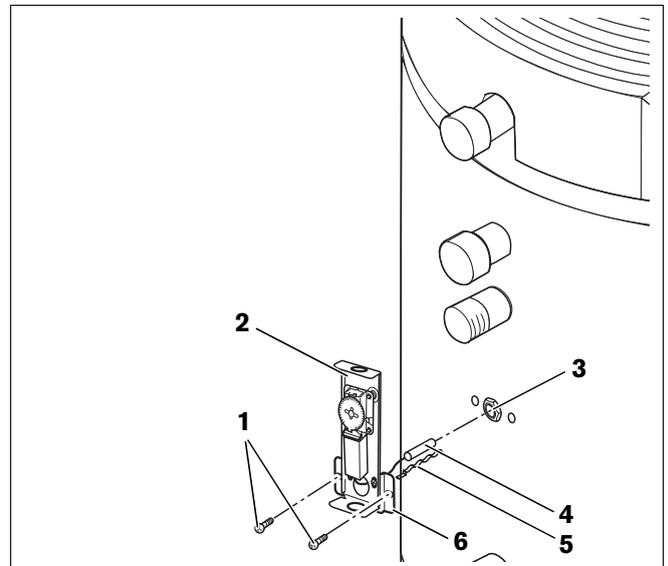

Fig. 10 Installing Aquastat
- Remove cover from Aquastat (Fig. 10, **Item 2**). To do so, undo the hex screw on the top.
- Screw on the holder (Fig. 10, **Item 6**) onto the Aquastat with 2 self tapping screws (if there is already a holder or bracket in place, remove it).
- Insert temperature sensor and spring (Fig. 10, **Item 4** and **5**) into the sensor well (**M**) (Fig. 10, **Item 3**).
- Screw the Aquastat (Fig. 10, **Item 2**) onto the DHW tank using 2 self tapping screws (Fig. 10, **Item 1**). Pre-drill two holes next to the M connection in the casing with a diameter to match the self tapping screws.